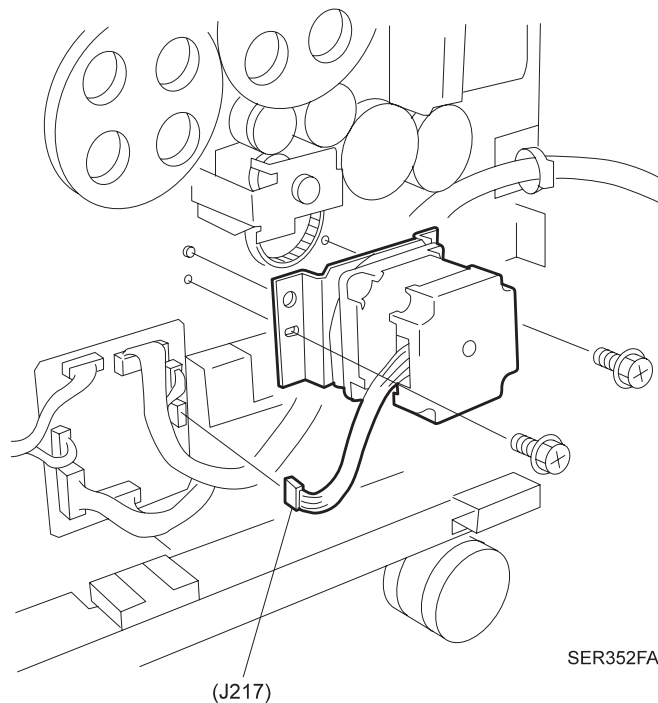

Figure 3-8. HCF Feed Motor
1. Position the Feed Motor so the wire harness is on the left side of the Motor (Figure 3-8).